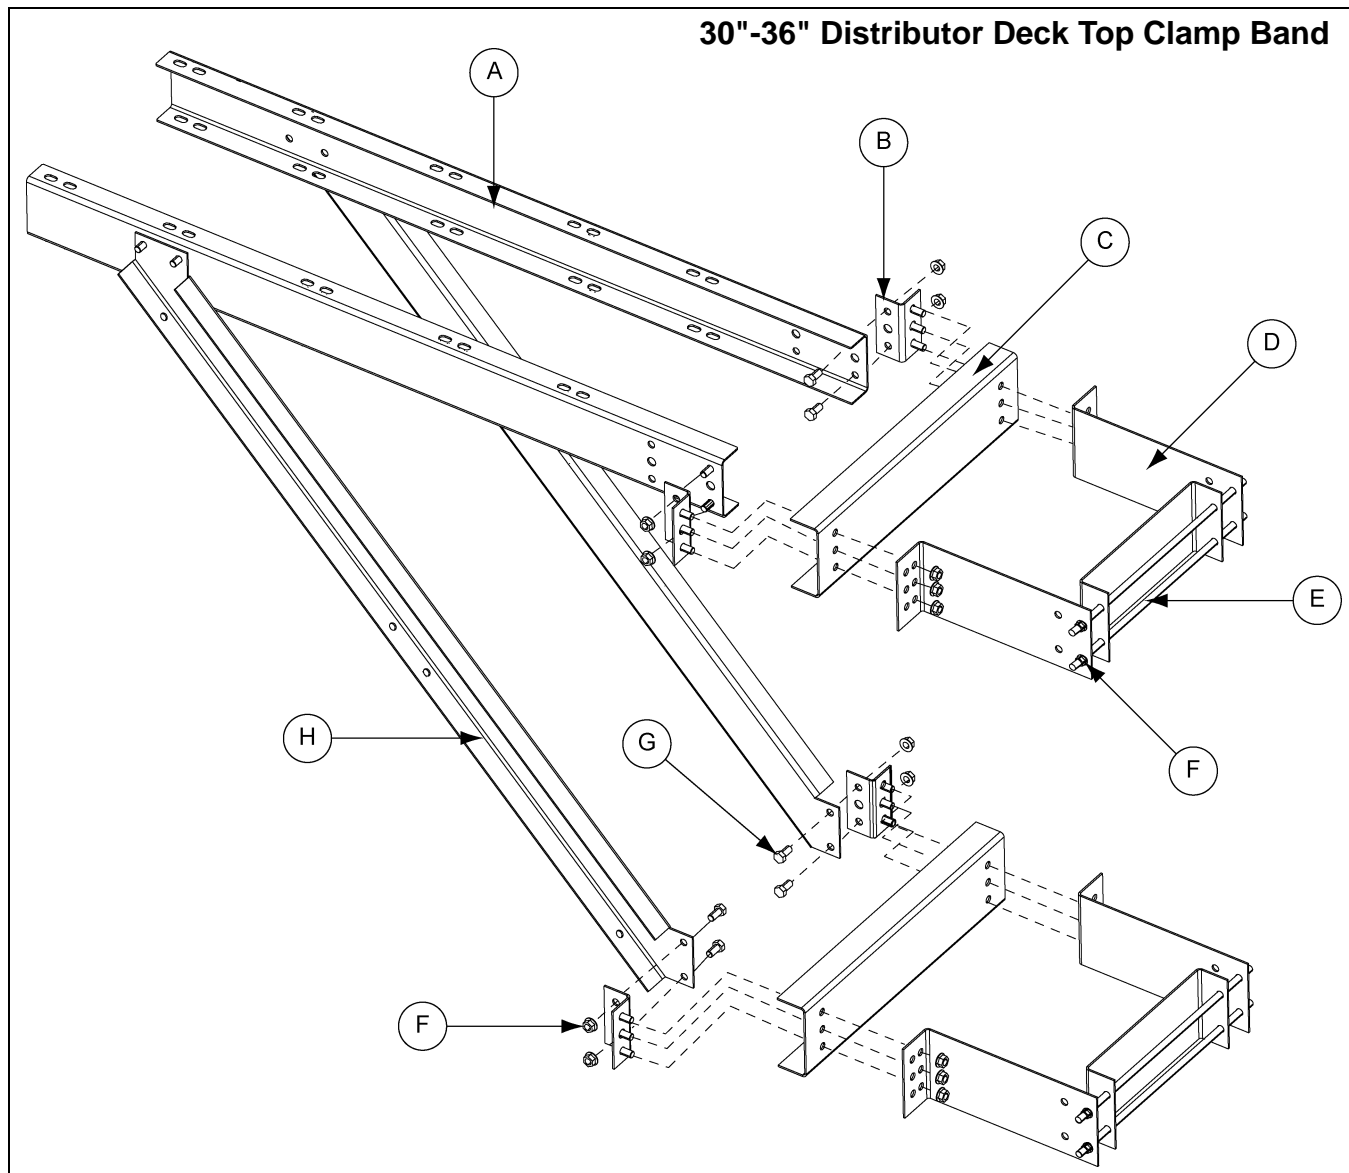

Figure 12A
1. Slide rods of clamp rod weldment (DSP16005) (E) into outside set of holes of clamp bands for both the top and bottom assemblies. Fasten together using four (4) 1/2" hex flange nuts (S-8506) (F) per each clamp.
2. Assemble the top and bottom clamp band weldments, clamp channel (DSP16001) (C) and clamp clips (GSB30144) (B) at same time around the trunking. Place clamp rod weldment (DSP16005) (E) assembly around the trunking leg and line up holes on clamp channel (DSP16001) (C) and clamp clips (GSB30144) (B) with the **inside set of holes** on the clamp bands (DSP16002) (D). Fasten all together using six (6) 1/2" x 1" bolts (S-7935) (G) and nuts (S-8506) (F). *(See Figure 12A on Page 94.)*
3. Line up the holes located at the end of the distributor support channels (A) and brace channels (H) with the holes on the clamp clips (GSB30144) (B). Fasten together using four (4) 1/2" x 1" bolts (S-7935) (G) and nuts (S-8506) (F).